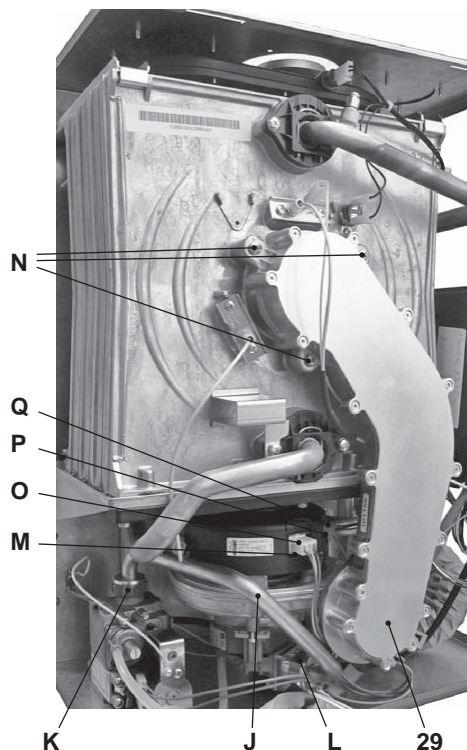

Fig. 9.6
Removing the fan burner unit 29 in Fig. 9.6.
- Insert a flat screwdriver in the connector recess M and lever towards the bottom, disconnect the connector at the same time O by pulling towards the front O (Fig. 9.6).
ing the plastic hook P positioned at the bottom part of the connector (Fig. 9.6).
- Unscrew screws N and remove the fan burner unit 29 (Fig. 9.6)